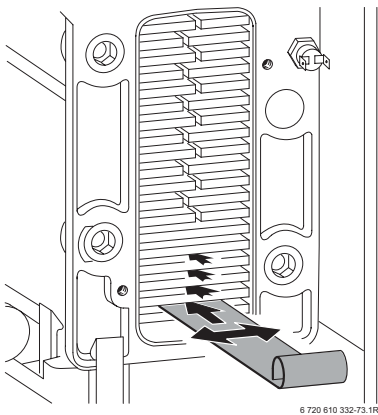

Fig. 54
- ▶ Loosen any deposits in the heat exchanger from top to bottom using the cleaning blade. Refer to fig. 54.